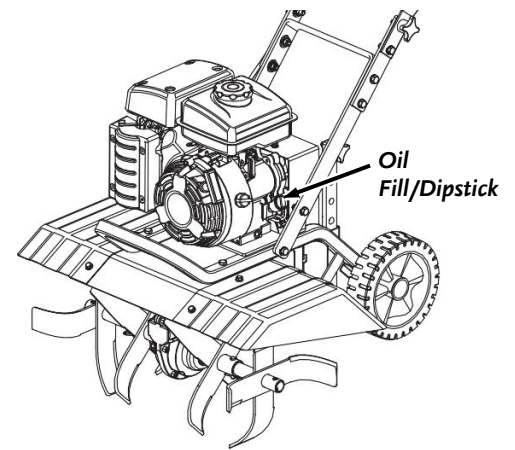

Figure 12
2. Remove the Oil Fill/Dipstick and wipe the Oil off with a clean rag (**Figure 12**).
1. Check the Engine Oil level every time before you use the machine (**Figure 12 and 13** on page 11).